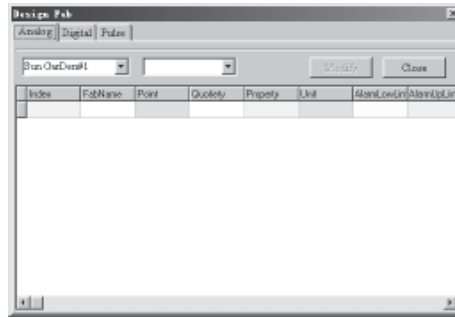

Fig. 4-10 FAB Defining Dialogue Frame
Step 1. Click **Monitor** Design FAB or the fast icon  by the mouse, the system will display the FAB Definition interface as in Fig. 4-10.